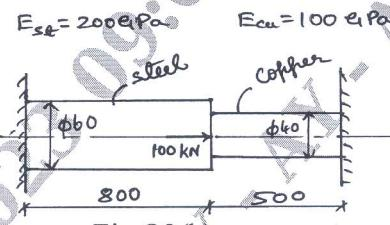

Fig.Q3(b)
b. Using penalty method of handling boundary condition, determine the nodal displacement, stress in each element and support reaction in the bar shown due to applied load in Fig.Q3(b). $P = 100 \text{ kN}$.